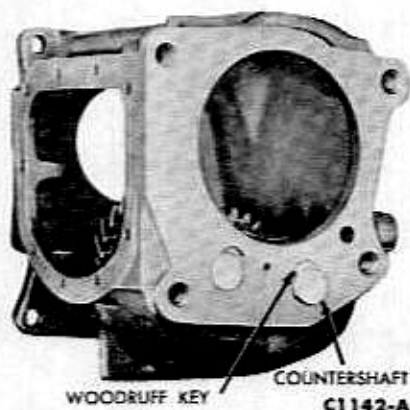

FIG. 10—Woodruff Key Installation in Countershaft
11. Start the countershaft into the rear bore. Center the gear and the thrust washers, and continue to slide the shaft into the gear. As the shaft is pushed forward, it will drive out the pilot tool through the front of the case. Before the rear end of the shaft enters the case, place the Woodruff key in its slot, making sure the key lines up with the keyway in the case. Drive the shaft the rest of the way in until it is flush with, or slightly inside, the machined rear surface of the case (Fig. 10).